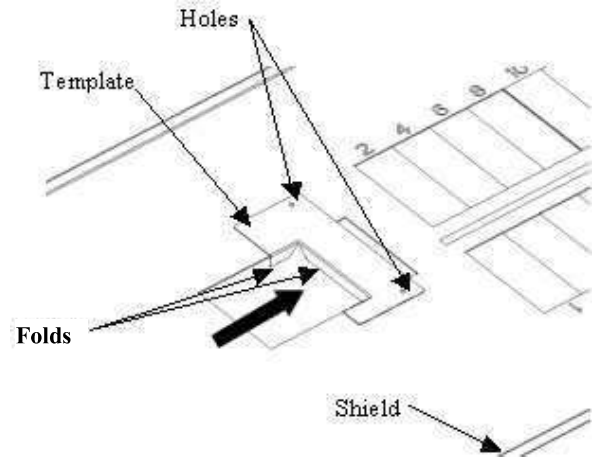

Fig 2
2. Insert the folds of the template in the knockout of 4-pole main breaker and slide towards the branch breaker knockouts until it ceases to slide further. See figure 2.